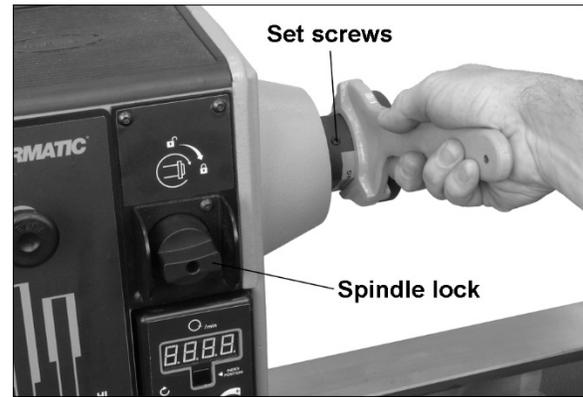

Figure 8-8: faceplate
3. Rotate spindle lock switch (Figure 8-8) and rotate handwheel slightly until lock engages with spindle.
⚠ WARNING If at any time you will be reversing spindle rotation, make sure the two set screws in the face plate are tight! One of these is shown in Figure 8-8. Failure to do this may cause face plate to loosen from headstock spindle.
5. To remove face plate, loosen the two socket set screws (Figure 8-8). Engage spindle lock switch and turn face plate counterclockwise with face plate wrench, as shown.
WARNING When turning with a face plate, make sure both set screws on the face plate are tight (see Figure 8-8) before reversing spindle. Failure to comply may cause face plate to spin loose from spindle.